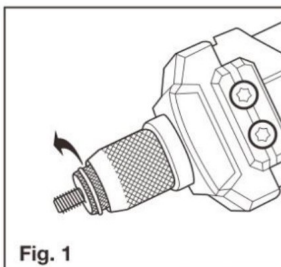

Fig. 1
2. Remove nosepiece from sleeve nut by unthreading the nosepiece anticlockwise. (see Fig. 1)